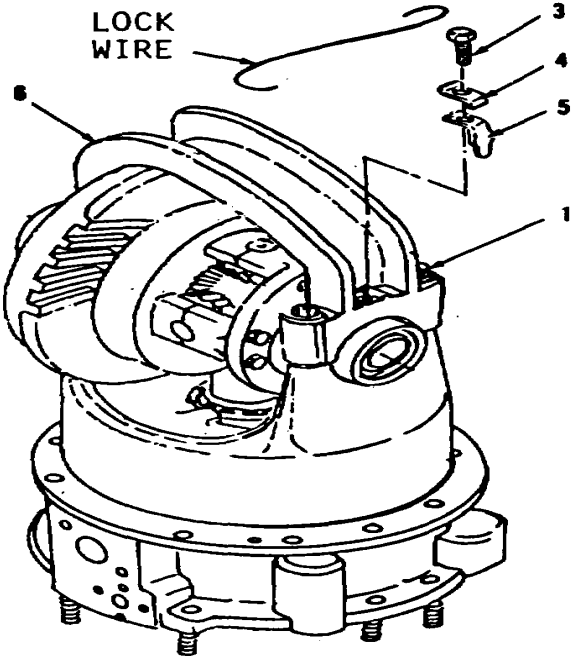

Figure 14-136.
- 11. Tighten four nuts (1, Figure 14-136) to 260 to 300 ft-lb torque.
- 13. Install two locks (5 and 4) and bolts (3).
- 14. Install new lock wire through four nuts (1) on each side of cap (6).